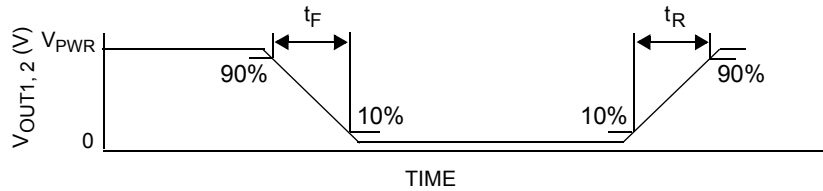

Figure 6. Output Switching Time
27. Rise Time is from the 10% to the 90% level and Fall Time is from the 90% to the 10% level of the output signal with $V_{PWR} = 24\text{ V}$, $R_{LOAD} = 3.0\text{ ohm}$. See Figure 6, page 10.